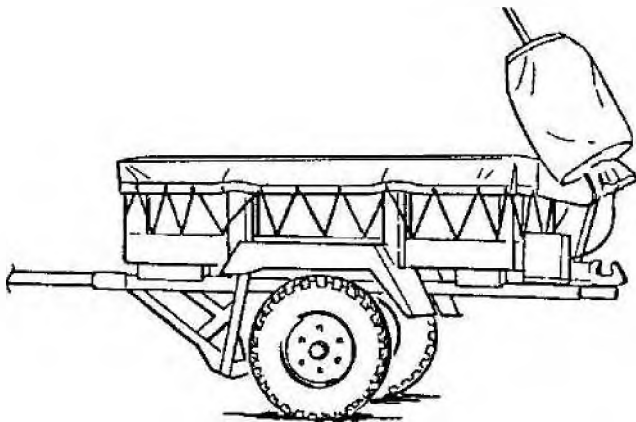

Figure 10-4. "Giant Viper" L-1, explosive line charge for antitank minefield (United Kingdom).
(2) *The Giant Viper L-1.* The Giant Viper L-1 (fig. 10-4) also has a rocket to project it across a minefield. It is designed to clear a route wide enough for tracked and wheeled vehicles and explode 90 percent of all mines in a lane 7.5 meters wide and 214 meters long. The explosive hose, 3 inches in diameter and 754 feet long, is filled with PE-2, an aluminized plastic explosive and is coiled within a removable box. The container, mounted on a trailer, is towed into position by a tank; the propelling rocket is then aimed manually and fired electrically.